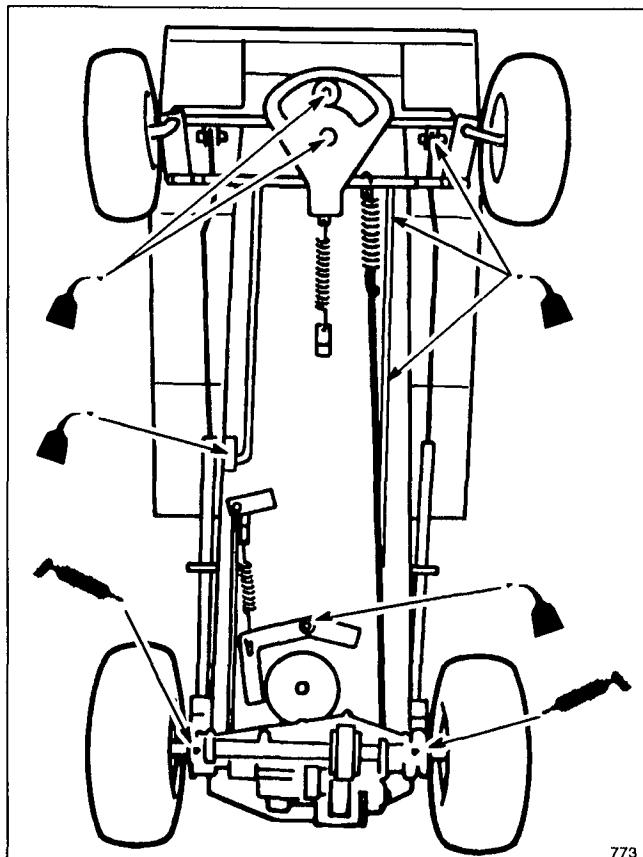
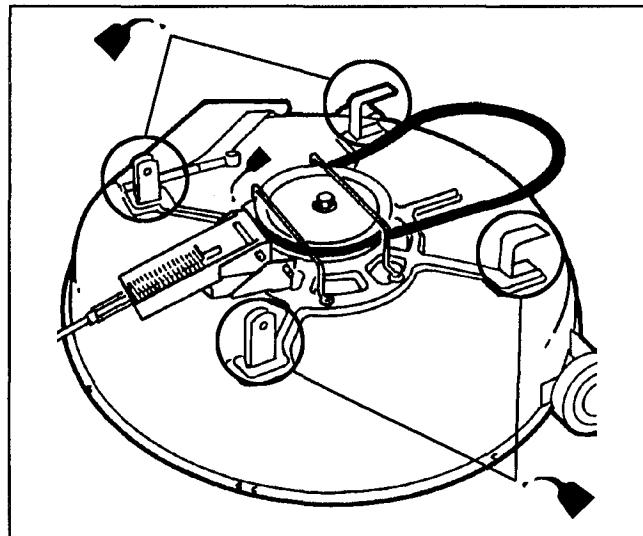

Figure 15
Figure 16
4. Lubricate rear axles with one to two pumps of No. 2 general purpose grease. The zerks are located just inside of the rear tires on the bottom of the transaxle (Fig. 15).
7. Lubricate pivot points in the steering, drive, brake, clutch, and deck engagement linkage with light oil (Fig. 15). Also lubricate mower housing (Fig. 16). Wipe up any excess oil.